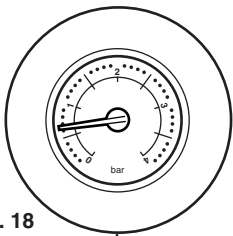

Fig. 18
2. With the system cold and the boiler not operating the pressure should be between 0.5 and 1.0 bar. During operation the pressure should not exceed 2.5 bar, and will normally be between 1.0 and 2.0 (Figs. 18 & 19).